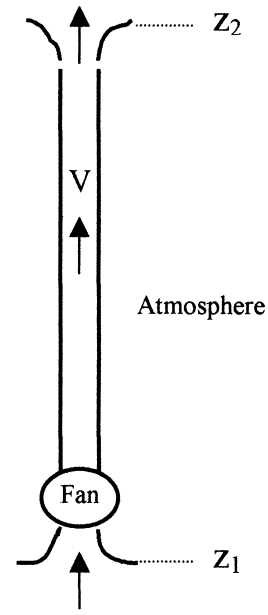

Fig. C3.5
**C3.5** Neglecting friction sometimes leads to odd results. You are asked to analyze and discuss the following example in Fig. C3.5. A fan blows air vertically through a duct from section 1 to section 2, as shown. Assume constant air density  $\rho$ . Neglecting frictional losses, find a relation between the required fan head  $h_p$  and the flow rate and the elevation change. Then explain what may be an unexpected result.